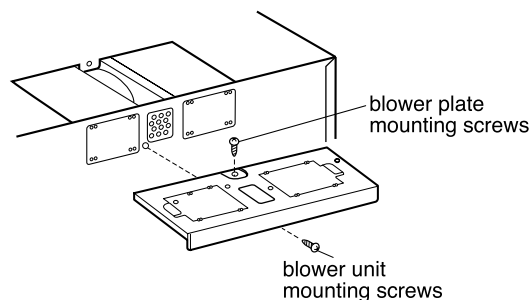

Figure 21
5. Reattach blower plate to microwave oven. Attach with the one blower unit mounting screw and then the one blower plate mounting screw. See Figure 21.